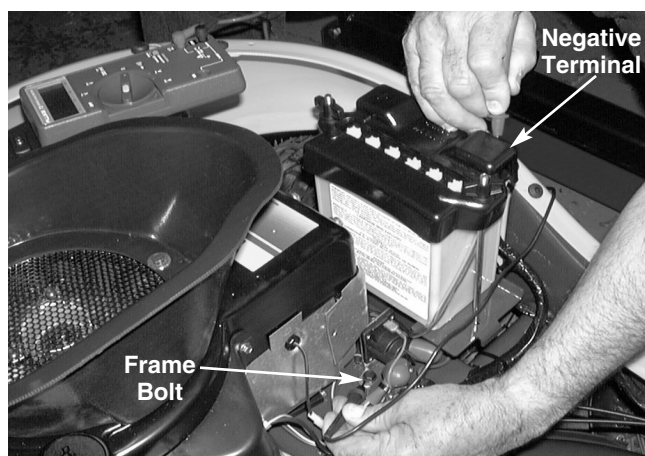

FIGURE 2.
- 3). Place one probe on the negative battery terminal. Place the second probe on the frame bolt. -There will be **CONTINUITY**. See figure 2.